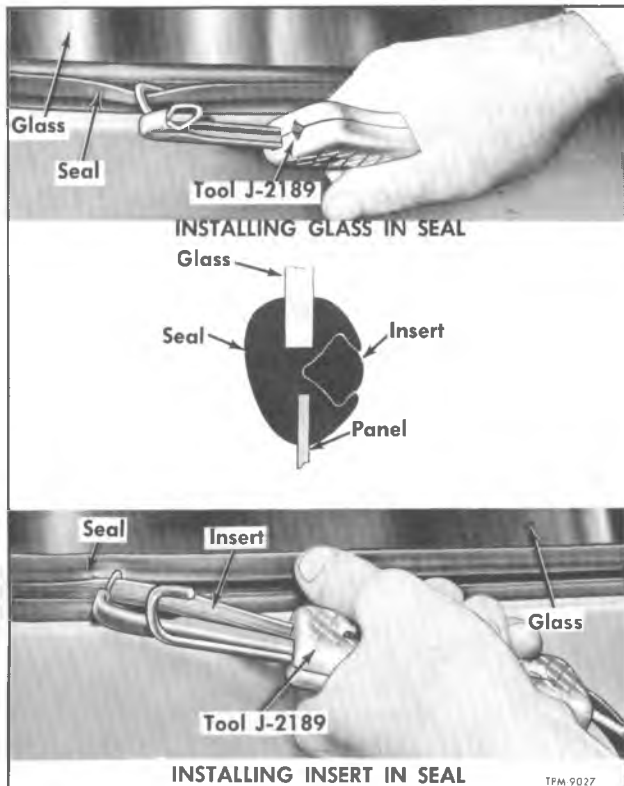

Figure 6—Installing Insert-Retained Glass (Tilt Cab Model)
Windshield glass is retained in cab opening by a molded rubber weatherstrip with an insert-type rubber seal as illustrated in figure 6. Two glass sections are used on steel tilt models.
### Removal (Fig. 6)
#### Installation (Fig. 6)
1. Reposition rubber seal on cab opening flange. Raise new glass to outside of seal; then with hook end of installer tool (J-2189) in glass groove of seal as shown in figure 6, move tool around glass to force outer lip of seal over edge of glass.
2. Thread end of rubber insert through handle and loop of installer tool (fig. 6). Push tool loop and end of insert into groove of seal. Feed in rubber insert, while proceeding around window. Use a hitching movement of tool to avoid elongating insert. If new insert is being used, cut off insert allowing sufficient overlap for a tight joint; then butt into groove.
Rear window glass is retained by means of rubber seal and seal insert (fig. 6). No sealing
4. Position glass to seal and insert hook end of installer tool (fig. 6) into seal groove. Move tool around glass to force outer lip of seal over glass.
5. Thread end of rubber insert through handle and loop of installer (fig. 6). Push tool loop and end of insert into groove at bottom center of window. Feed in the rubber insert while proceeding around window. Use a hitching movement to avoid elongation of insert.